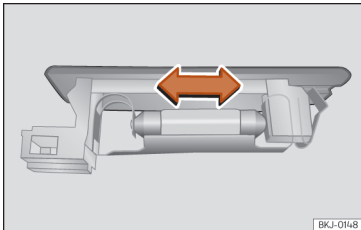

Fig. 59 Boot light.
- Press the bulb sideways and remove it from its housing »» **Fig. 59.**